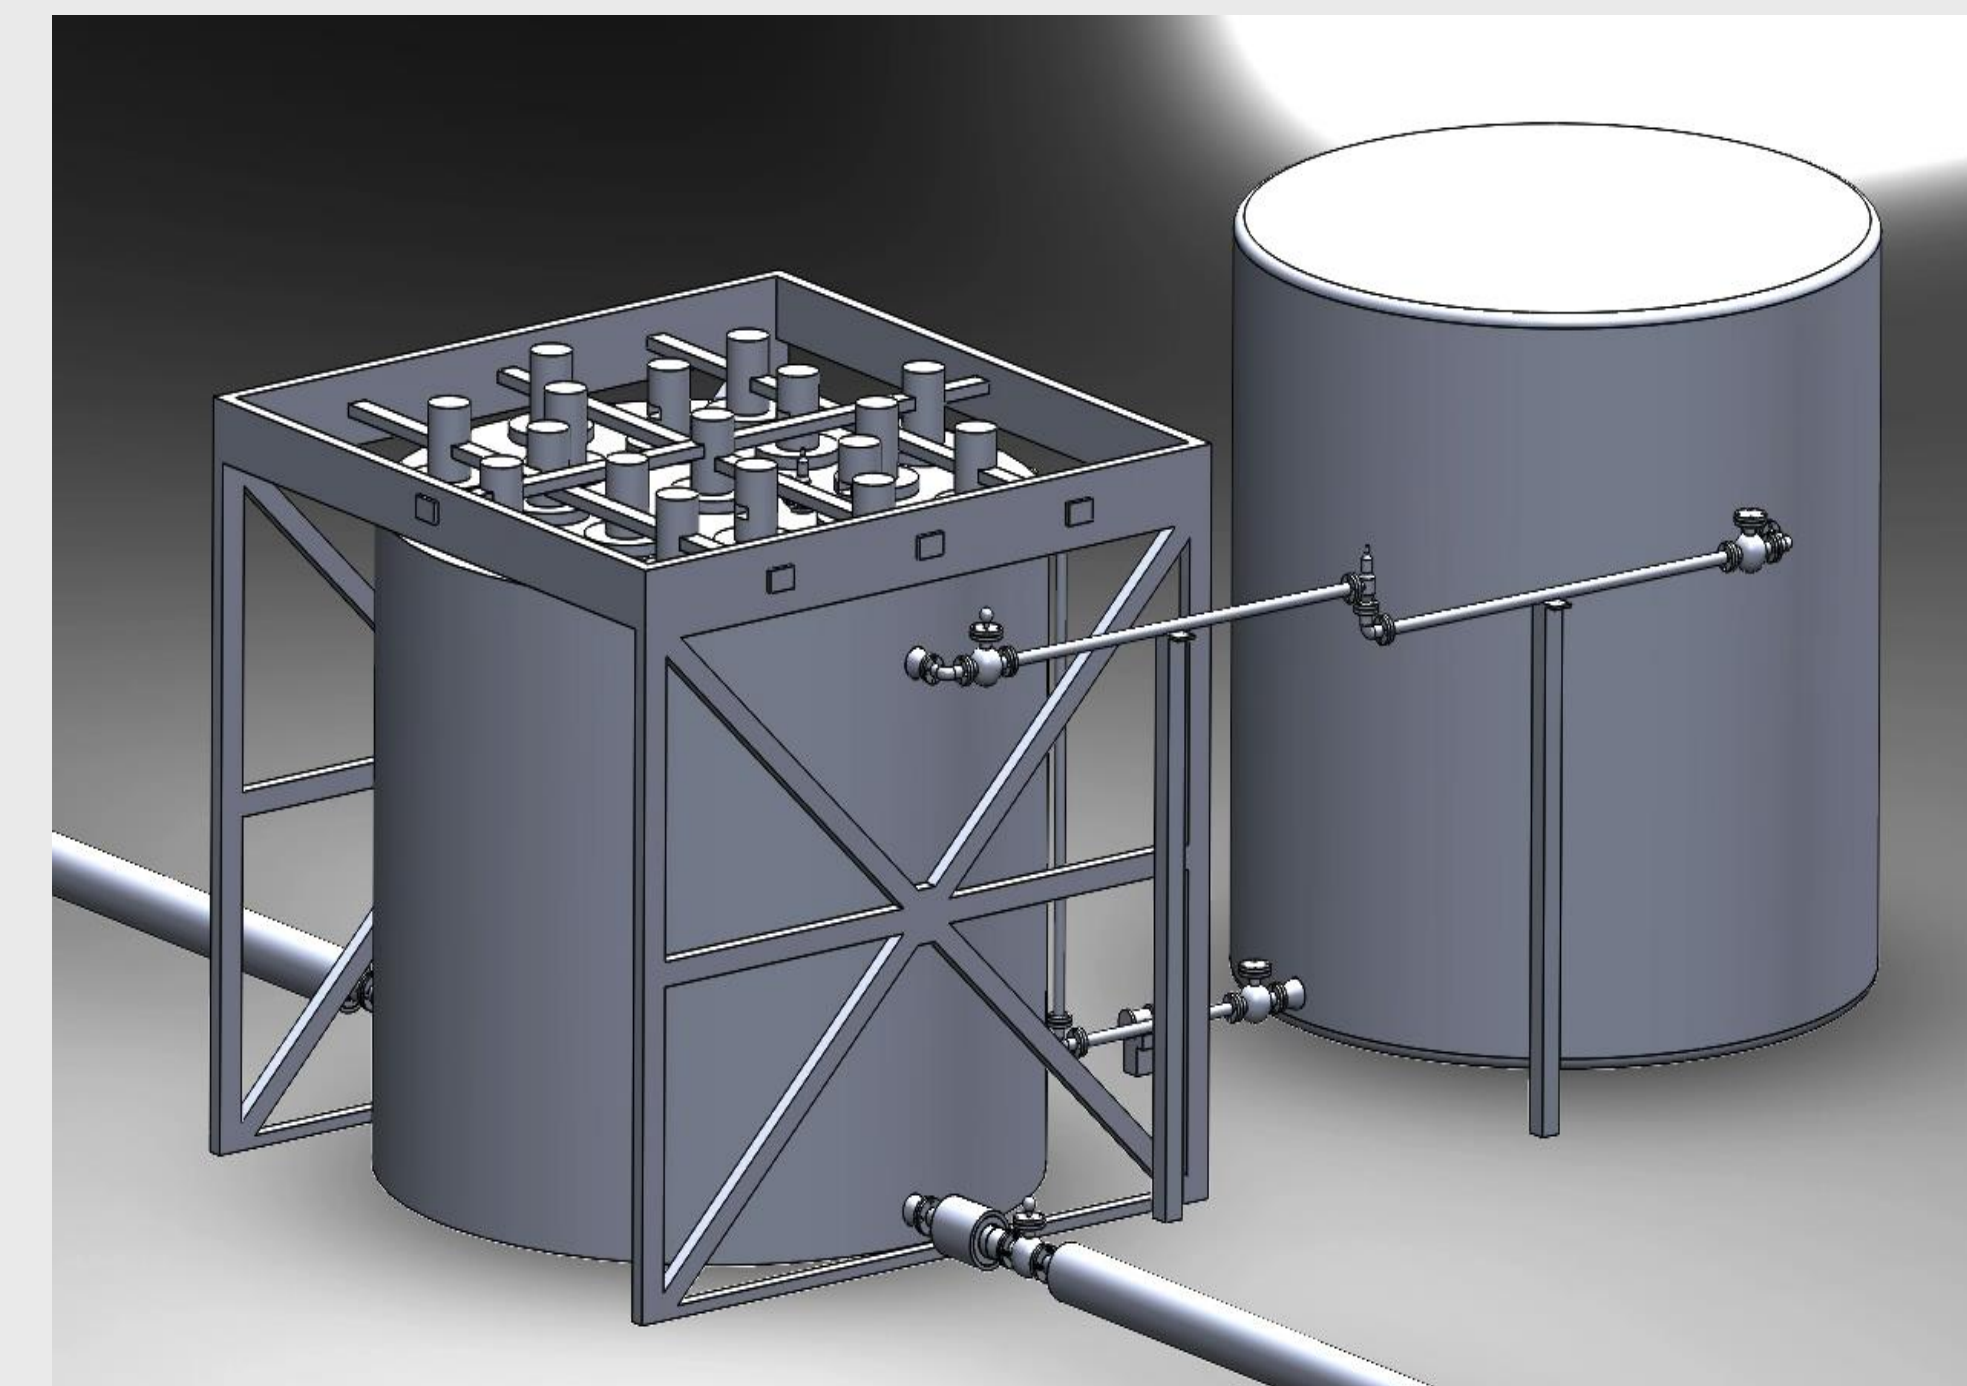

Figure 1. Overview of the Final Design for the Facility (Storage Vessel left, Nitrogen Tank right)
- The storage vessel shown in Figure 1, is a redesigned polycarbonate flexible water container to replace heavy pressure vessels.
- The storage vessel and hose design in Figures 1 and 2 can expand elastically with the expansion of water as it freezes.